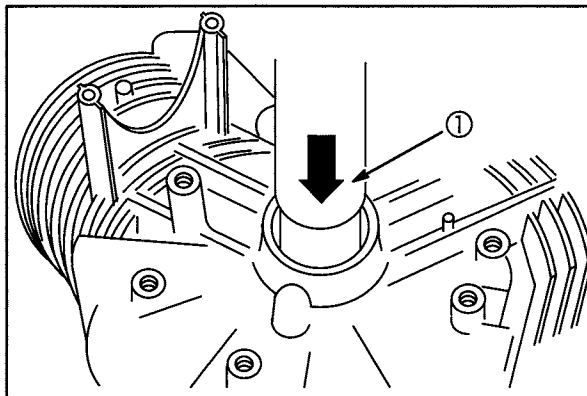

Fig. 7
5. Press out bearing with bushing driver (1), Fig. 7.
1. Place cylinder on Cylinder Support #19227 with large opening facing bearing, Fig. 7.
3. Press in new bearing to correct depth with bushing driver (1).